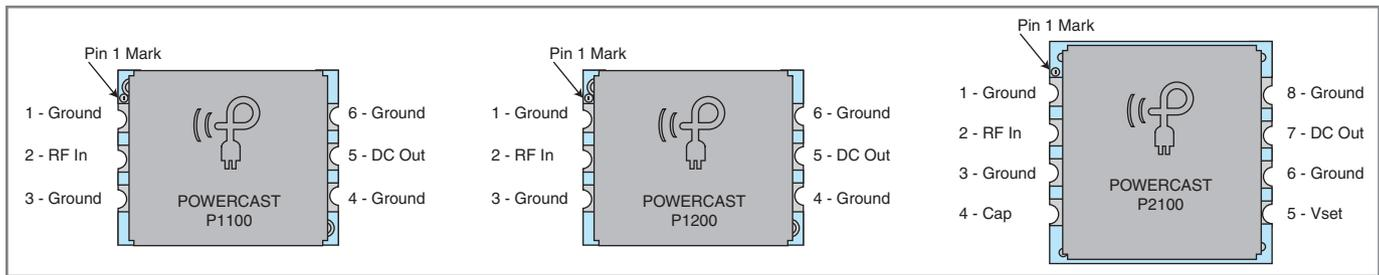

Figure 1—Designing-in the PowerCast harvesters is really simple: hang an antenna (50Ω) on one side and the load on the other.
The receivers are tailored for slightly different applications (see Figure 1). The P1100 and P1200 offer fixed output voltage limiting that makes them a good choice for designs using rechargeable batteries (alkaline and lithium, respectively). Design-in is as simple as it can be, just connect the antenna on one side and the load on the other.
Figure 1—You can follow the root (or structure) of the management information base (MIB) down to the SNMP node using the dotted integer path (.1.3.6.1.2.1.11). Note that SNMP(11) is part of the MIB for the simple network management protocol (SNMP) found in RFC3418.
The structure is made up of data objects or object identifiers (OIs) represented by a sequence of integers, which traverse a global tree identifying a particular node. The tree begins with a main root connected to a number of labeled sub-roots or nodes. Each node may, in turn, have sub-roots (or children) of its own, which are labeled. This process may continue to an arbitrary level of depth. **Figure 1** shows a partial view of the root structure. For additional information, refer to Keith McCloghrie et al's "Structure of Management Information Version 2" (SMIv2).